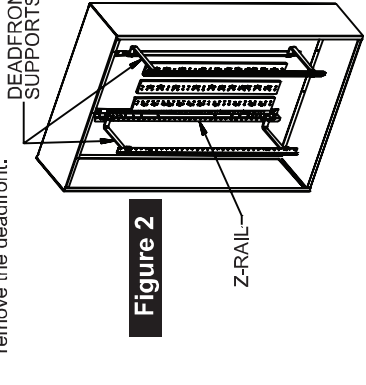
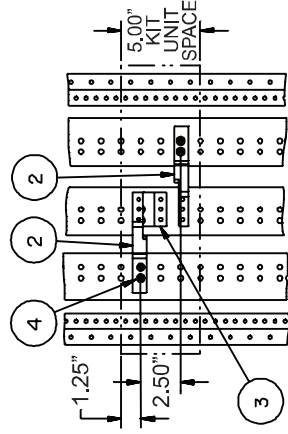

Figure 2
Figure 4
3. Refer to Figure 2: To mount a QR breaker, 5" of empty unit space is required. To locate the mounting position, measure from the top deadfront support to the top of the empty unit space filler on the deadfront. Transfer this dimension from the deadfront support along the Z-rail and mark. This will be the unit space as shown on Figure 4. After marking the Z-rail, remove the deadfront.
5. Refer to Figure 4: The first items to be installed are the line straps (Items 2 & 3). Locate the two 0.228" diameter holes on the B-phase of the section bus 1'-1/4" down from the top of the 5.0" unit space selected. Insert two 1/4"-20 thread-forming screws (Item 4*) through the 2 holes in the B Strap (Item 3) and then into the 0.228" diameter holes on the B-phase bus and tighten. Repeat this step to install the A-phase strap (Item 2) onto the A-phase bus. To install the C-phase strap (Item 2), locate two 0.228" diameter holes on the C-phase bus 2.50" below the mounting screws of the A-phase and B-phase straps. Insert two more of the 1/4"-20 thread-forming screws (Item 4*) through the two holes in the strap and then into the 0.228" diameter holes in the C-phase section bus. Torque all screws to the values specified on the rear of the deadfront (or in the table above).